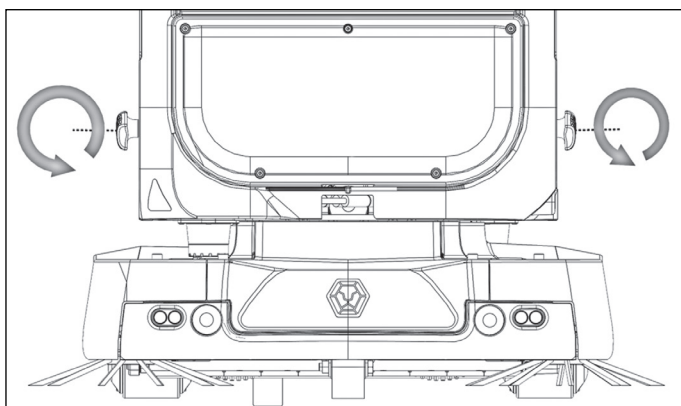

Figure 68
1. Remove the bottom front cover by unscrewing the 2 Front Cover Knob (14) (Fig. 2) until it can be removed as shown (Fig. 68).